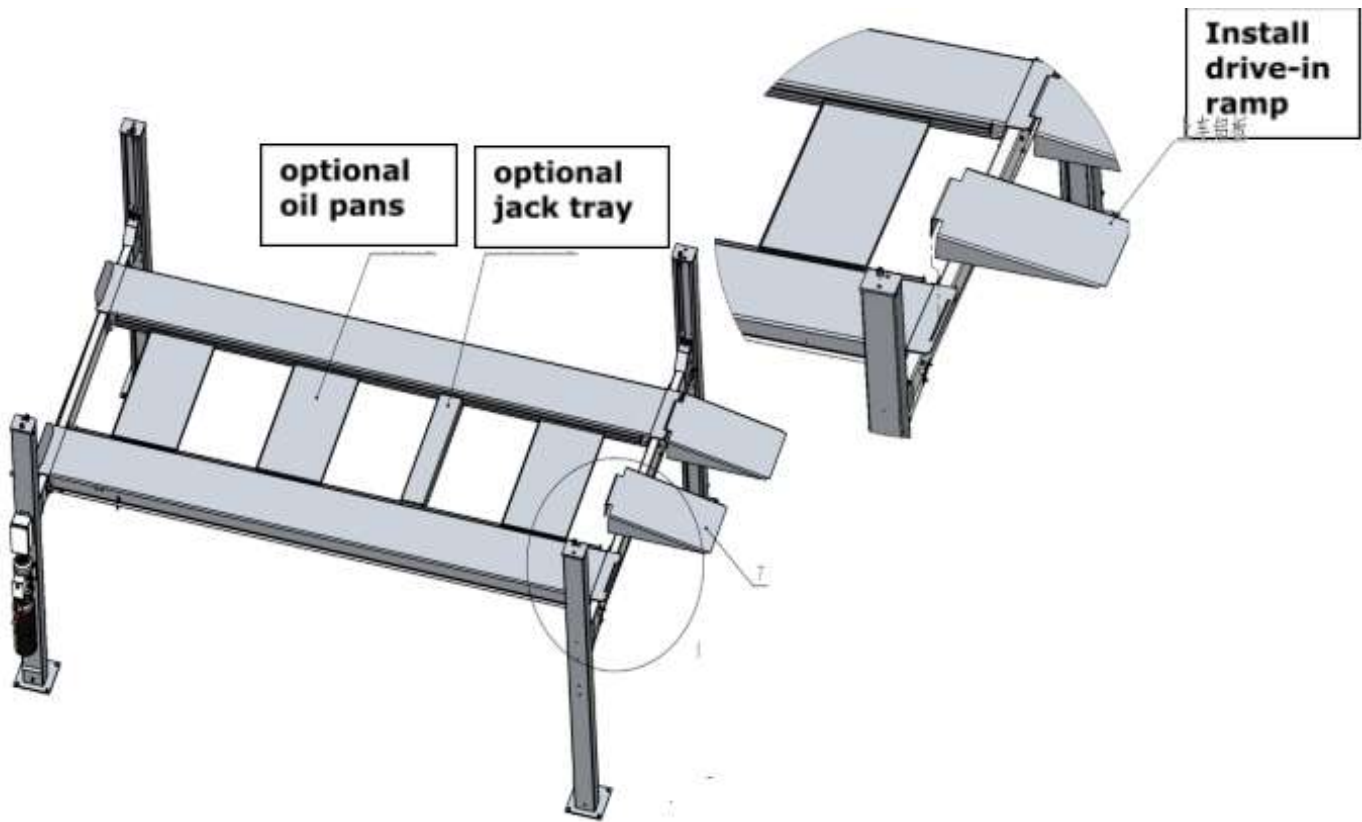

Figure 27
**Step 11** - Install drive-in ramp, optional jack tray and optional oil pans (See Fig.27). then attach the drive-in ramp: